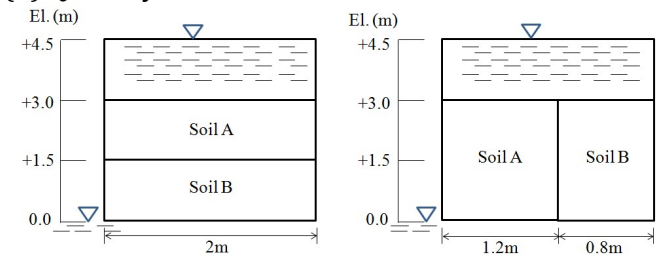

Fig.1
- (b) Two soils A and B with coefficients of permeability as 0.002 m/s and 0.0004 m/s, respectively are arranged in the manners shown in the Fig.1. Determine (i) The total head at El. 0.0 m and El. +3.0 m in each case and (ii) Quantity of flow in each case. Take El. 0.0 m as datum.